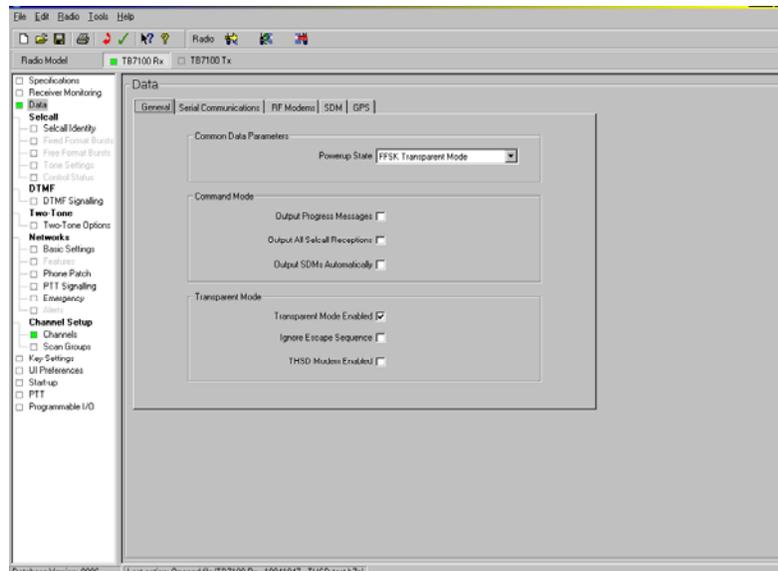

Figure 3
- Under Data>General set the 'Power up State' for FFSK transparent mode and select 'Transparent Mode Enabled'. Leave all other options unselected. Refer to figure 3.